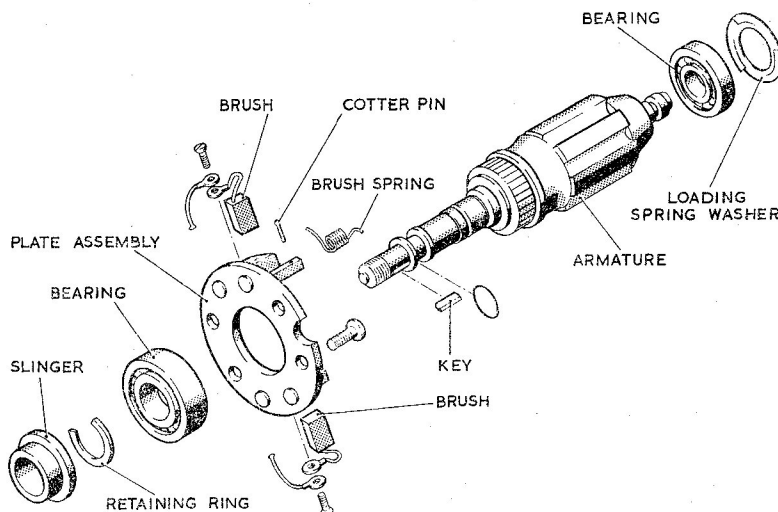
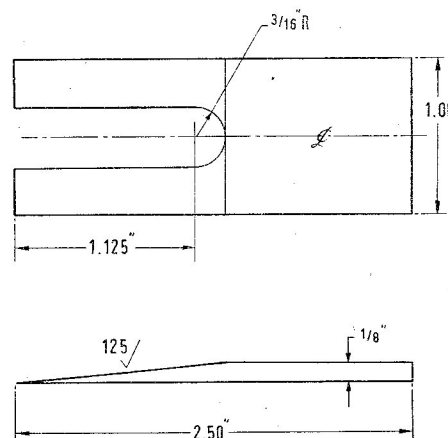

Fig. 2. Exploded view of motor
Fig. 3. Slinger remover
2. Apart from the normal hand tools generally used, the only special tools are two slinger removers (fig. 3), manufactured from strip steel.
(7) Remove the four screws from the brush holder plate assembly and lift the armature assembly complete (fig. 2) from the pump body.
(8) Remove the cotter pins, brush springs and brushes from the brush plate assembly. Mark each brush so that it can be refitted into its same brush holder.
(9) Remove the slinger, using the tool shown in fig. 3. Remove the retaining ring. Using the appropriate bearing extractor, remove the bearings. Lift off the plate assembly.